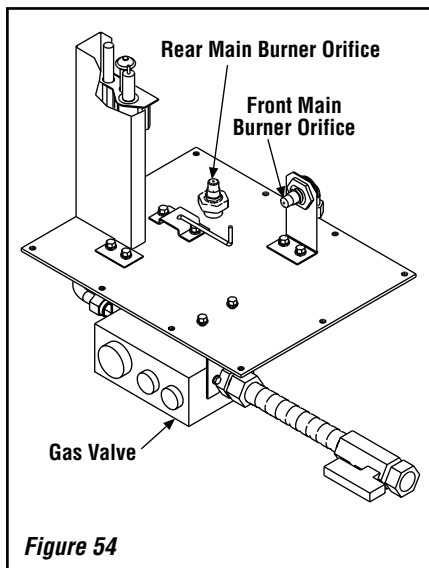
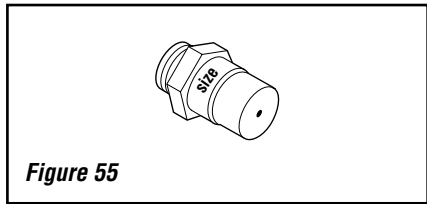

Figure 54
Figure 55
Step 14. Unscrew the rear and front main burner orifices (*refer to Figure 54*) from their respective manifolds and replace them with the ones provided in this kit. There are two main burner orifices provided in this gas conversion kit. Refer to **Table** below for the correct front and rear main burner orifice sizes for the gas being used. The orifice size is stamped on the orifice. See *Figure 55*.